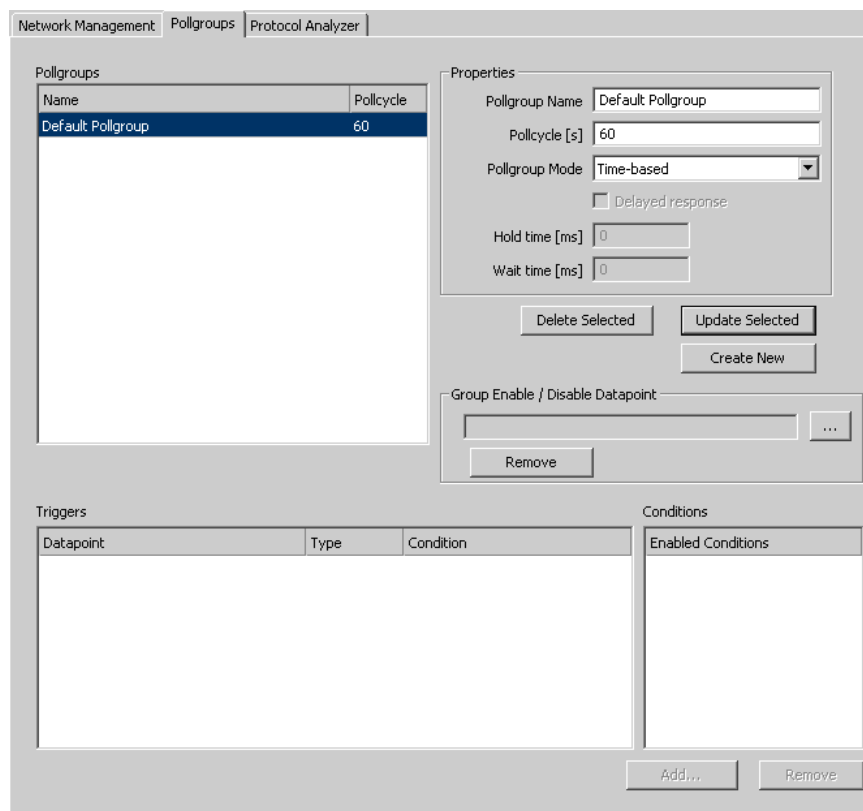

Figure 134: Pollgroup Management dialog.
2. Open the **Pollgroups** tab. This shows the dialog displayed in Figure 134.
2. In the **M-Bus Management** dialog, open the **Pollgroups** tab. This displays the poll groups management tab displayed in Figure 134.